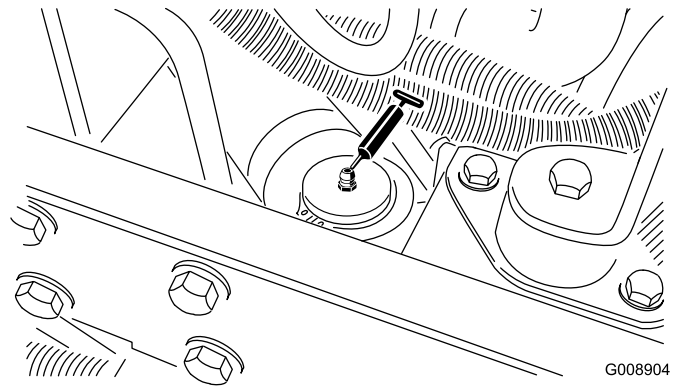

Figure 70
- Steering cylinder (Figure 70).